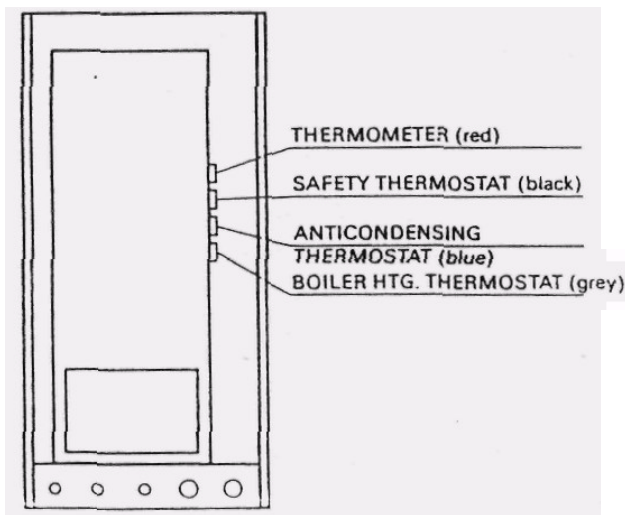

Fig 6.4 POSITION OF THERMOSTATS AND THERMOSTAT PHIALS
- 6.14.2 Identify the phial of the thermostat or thermometer to be replaced (fig. 6.4).